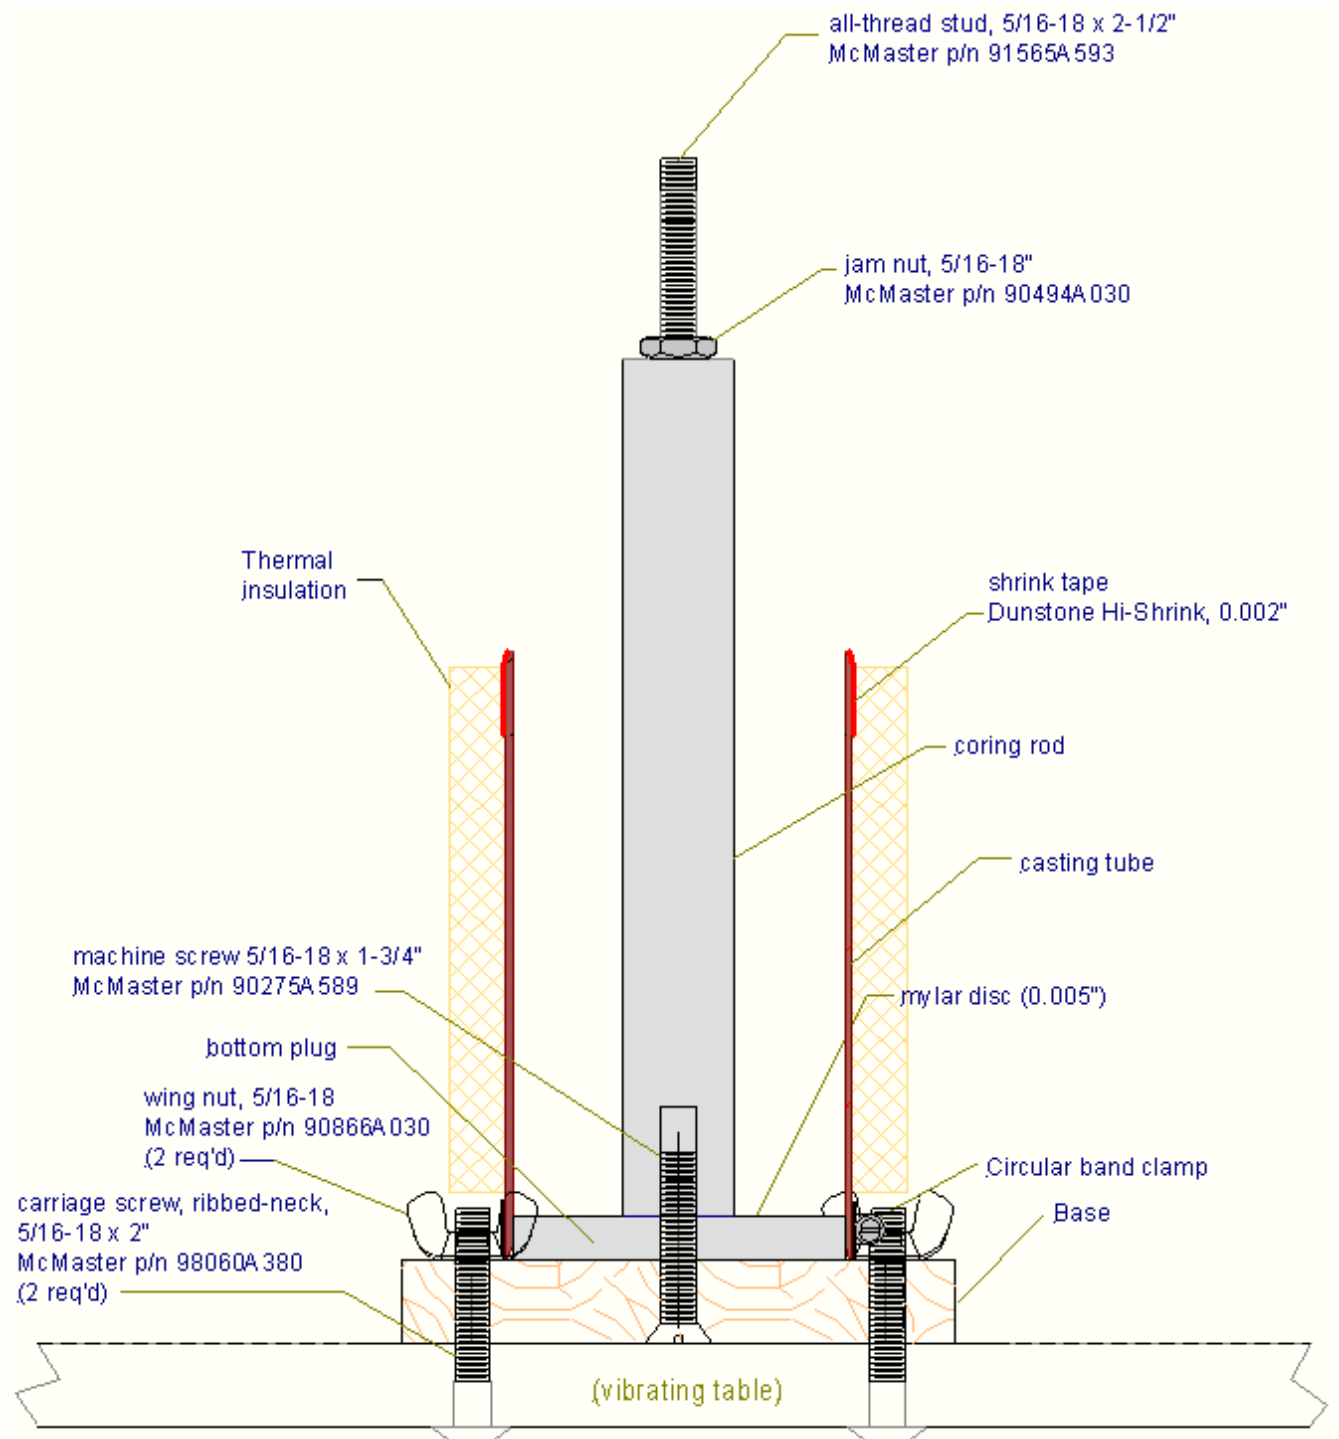

Figure 1 – Setup for propellant loading operation.
7. Prepare casting apparatus for propellant loading, and mount onto vibrating table as shown in Figure 1.